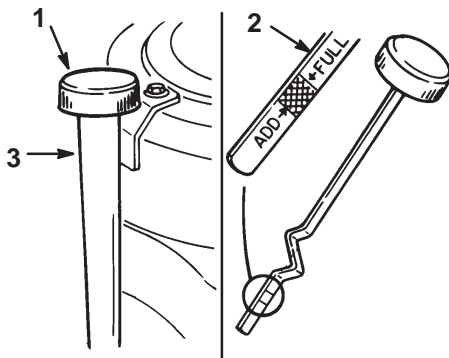

Figure 20
2. Clean around the oil dipstick (Fig. 20) so dirt cannot fall into the filler hole and damage the engine.
3. Unscrew the oil dipstick and wipe the metal end clean (Fig. 20).
4. Slide the oil dipstick fully into the filler tube, do not thread onto tube (Fig. 20). Pull the dipstick out and look at the metal end. If oil level is low, slowly pour only enough oil into the filler tube to raise the level to the “FULL” mark.
5. Slowly pour approximately 80% of the specified amount of oil specified, page 25, into the filler tube (Fig. 20). Now check the oil level; refer to Checking Oil Level, page 26. Slowly add additional oil to bring to “FULL” mark on dipstick.